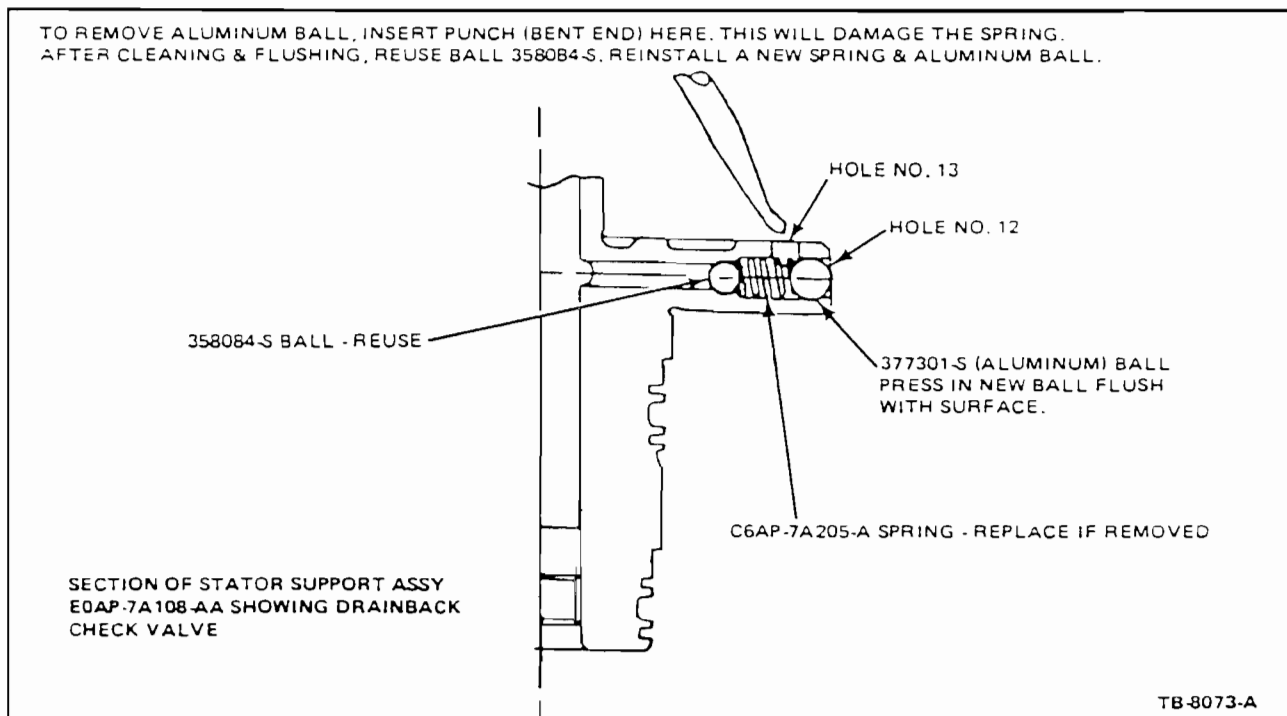

Figure 10 — Article No. 85-11-9
3. Install the check ball and a new spring. Press in flush a new aluminum ball plug as indicated in Figure 10.